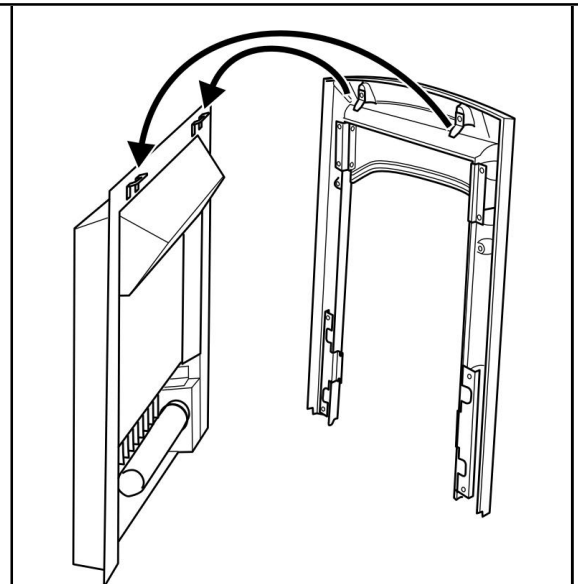

Figure 16. Fitting the fascia. The Fascia shown is the 'Dream' The Eternal, Manor, Ultimate and Victorian fit in the same way.
1. Hook the brackets on the rear of the fascia over the brackets on the heater (See figure 16).
1. Fit the fascia to the heater by hooking the brackets on the rear of the fascia over the brackets on the heater (See figure 16).